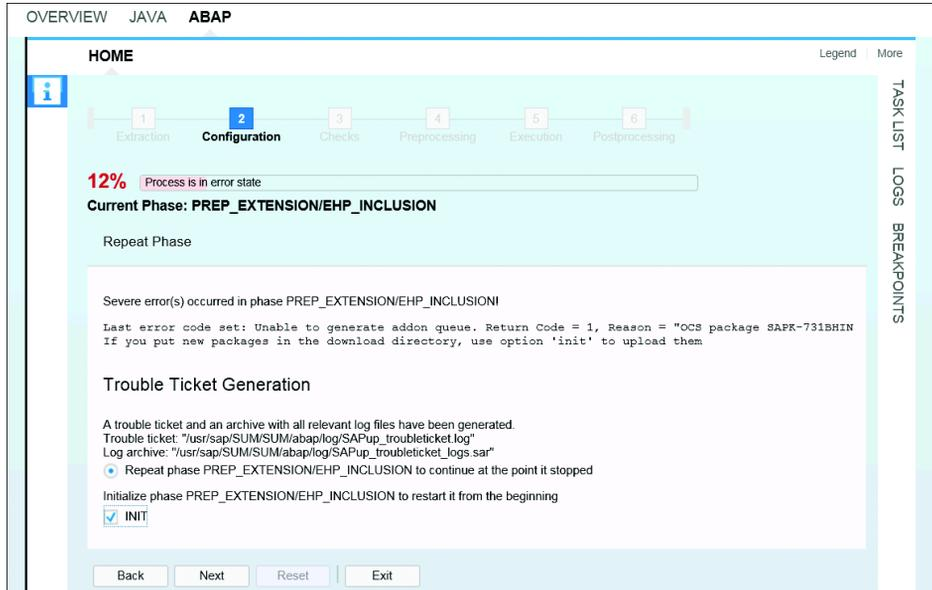

Figure 49 Issue with Extraction of SAPBASIS 731 Attribute Package
4. If you run into an error within the task EHP/INCLUSION that says THE FOLLOWING IMPORT PREREQUISITES FOR OCS PACKAGE SAPK-731BHIN-SAPBASIS HAVE NOT BEEN MET and OCS PACKAGE SAPK-731BHINSAPBASIS DOES NOT MATCH THE CURRENT SOFTWARE COMPONENT VECTOR, this means that SUM cannot find the attribute change package for the component SAP BASIS 731 (see Figure 49). Verify the package was downloaded when you downloaded the installation media. If it wasn't, then you must download it manually. Once found, verify it is with the rest of the media and then extract the *SAPBASIS731.SAR* file into directory */usr/sap/trans/EPS/in*. Select the INIT flag within SUM and click NEXT.